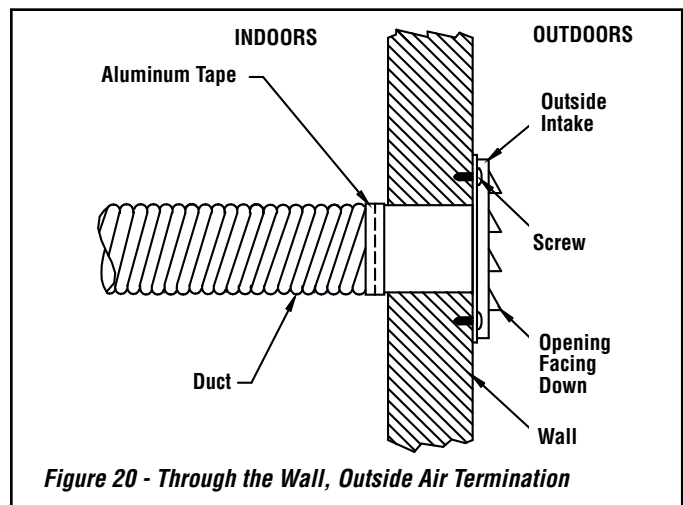

Figure 20 - Through the Wall, Outside Air Termination
- B) The air intake register must not be installed more than ten (10) feet above the base of the stove.
- Make a 4-1/4" hole in the outside wall of the house at the chosen location. From outside, place the outside air register in the hole (open side down) and fasten the register to the wall, with screws as shown (see *Figure 20*).